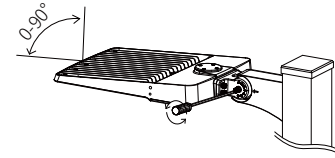

Figure 2-4
- Step4: If the installation angle of the fixture needs to be adjusted, loosen the screws of the bracket, and fix them again after finished adjustment, Figure 2-4;